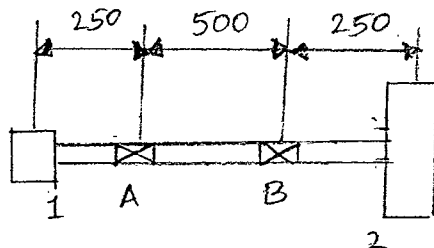

FIG. 12a
12. (a) The layout of a shaft carrying two pulleys 1 and 2 and supported on two bearings A and B is shown in Fig. 12a. The shaft transmits 7.5 kW power at 360 rpm from pulley 1 to pulley 2. The diameters of the pulley 1 and 2 are 250 mm and 500 mm respectively. The belt tensions act vertically downward and ratio of belt tensions on tight side to slack side for each pulley is 2.5:1. The shaft is made of plain carbon steel 40C8 ($\sigma_{yt} = 380 \text{ N/mm}^2$) and the factor of safety is 3. Estimate suitable diameter of the shaft.